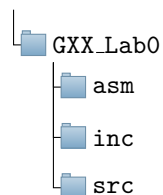

Figure 1: The project folder structure
1. First, create a new folder named *GXX_Lab0*, where GXX is your group number. Within this folder, create three folders: *asm*, *src* and *inc*. The final folder structure is shown in Figure 1. All C code files (.c) will be saved in *src*, assembly files (.s) in *asm*, and header files (.h) in *inc*.